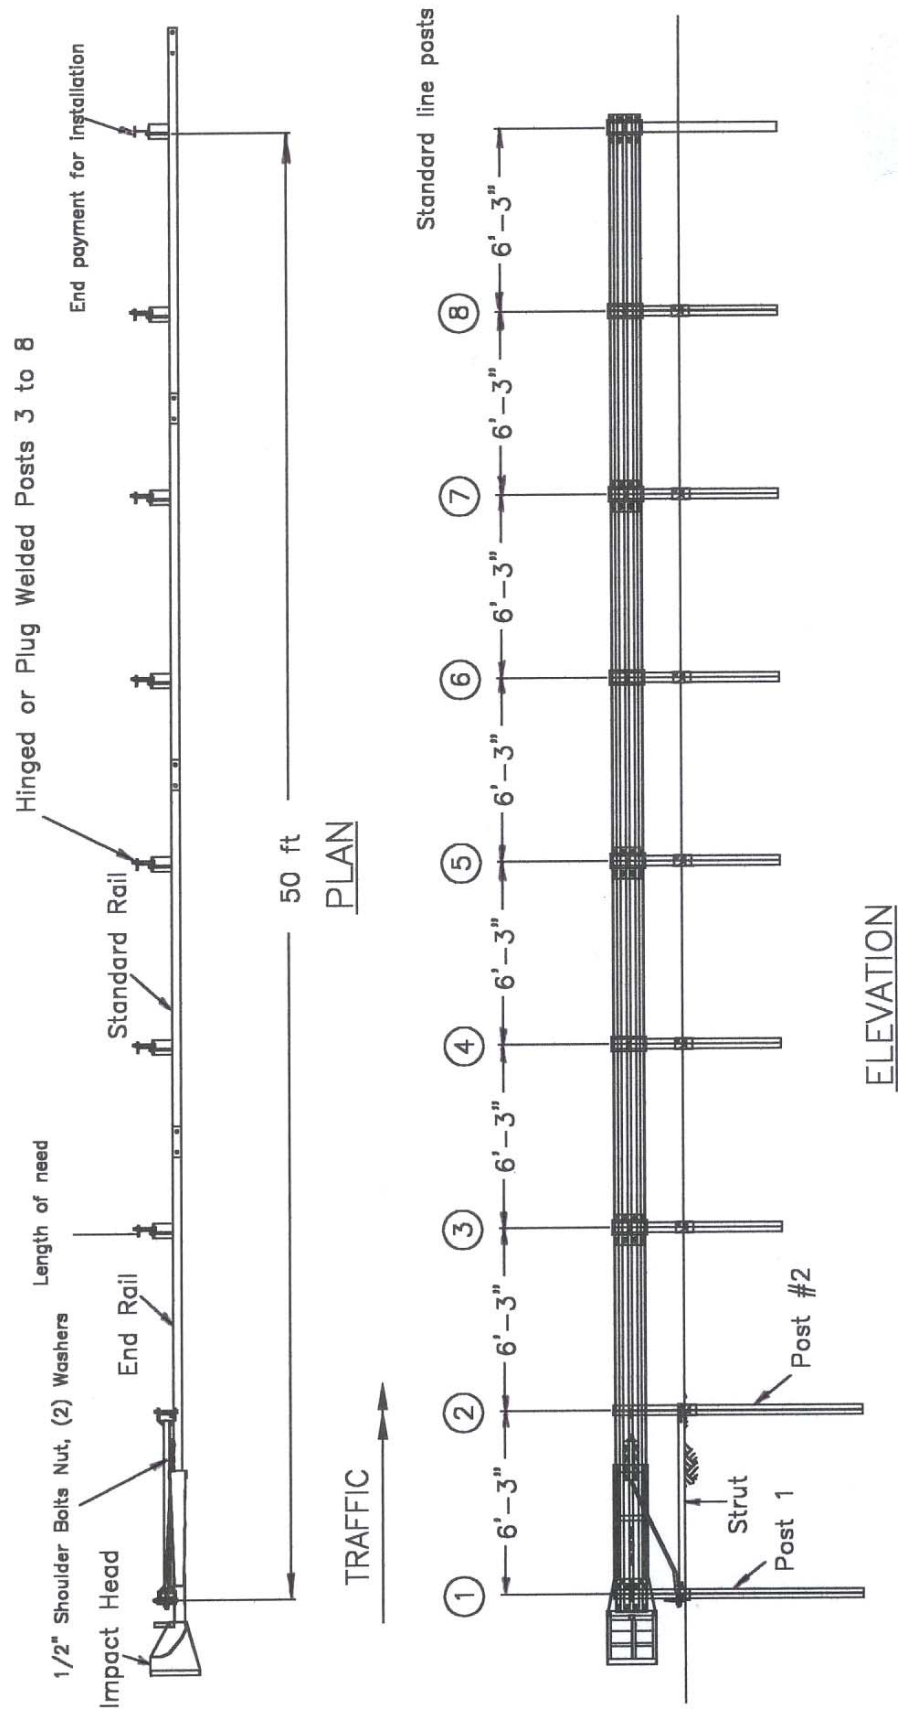

Figure 1. Plan and Elevation View of Steel Post SKT System
- Installing the **SKT** – This section gives a step-by-step procedure on the proper installation of the SKT system. (page 16) Refer to Figures 1 – 13 for details.
The **SKT** breakaway steel posts are applicable for Test Level 3 (50'-0" long system) and Test Level 2 (25'-0" long system) design speeds. See **Figure 1** for a layout of the **SKT** steel post system.
- Install guardrail. All posts are spaced at 6'-3". (See **Figure 1**).